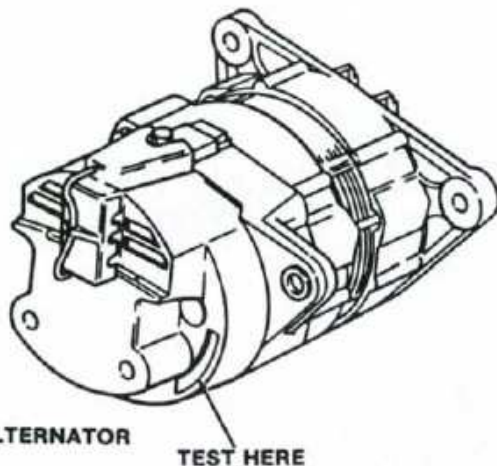

Fig. 63—View showing test hole for bypassing voltage regulator on typical Lucas alternator.
**76A. VOLTAGE REGULATOR BYPASS TEST.** With voltmeter connected as outlined in paragraph 76, start and operate engine at 1800 rpm. Ground voltage regulator to alternator housing using a probe with ground wire inserted through test hole in back of alternator cover as shown in Fig. 63. If voltage before bypassing voltage regulator was not between 13 and 15 volts, but is now between 13 and 15 volts with regulator bypassed, renew voltage regulator. If voltage fails to be between 13 and 15 volts while bypassing regulator, remove and overhaul alternator.